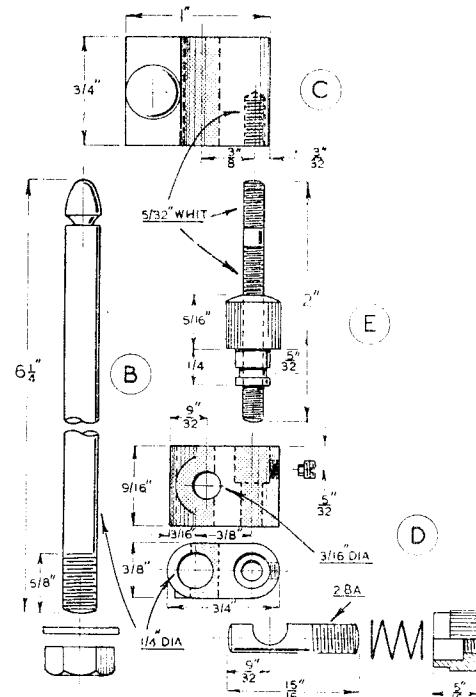

Fig. 5. "B"—the pillar ; "C"—the rule clamp ; "D"—the fine-adjustment bracket ; "E"—the adjusting-screw
The Fine-adjustment Bracket (D), Fig. 5
The Adjusting-screw (E), Fig. 5